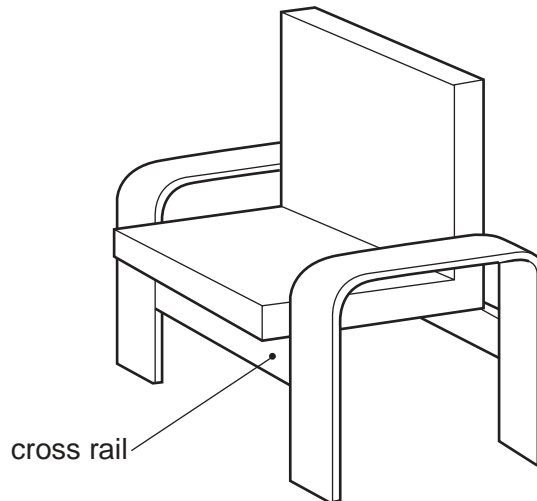

Fig. 4
- 6 The sides of the chair shown in Fig. 4 are made from laminated wood.